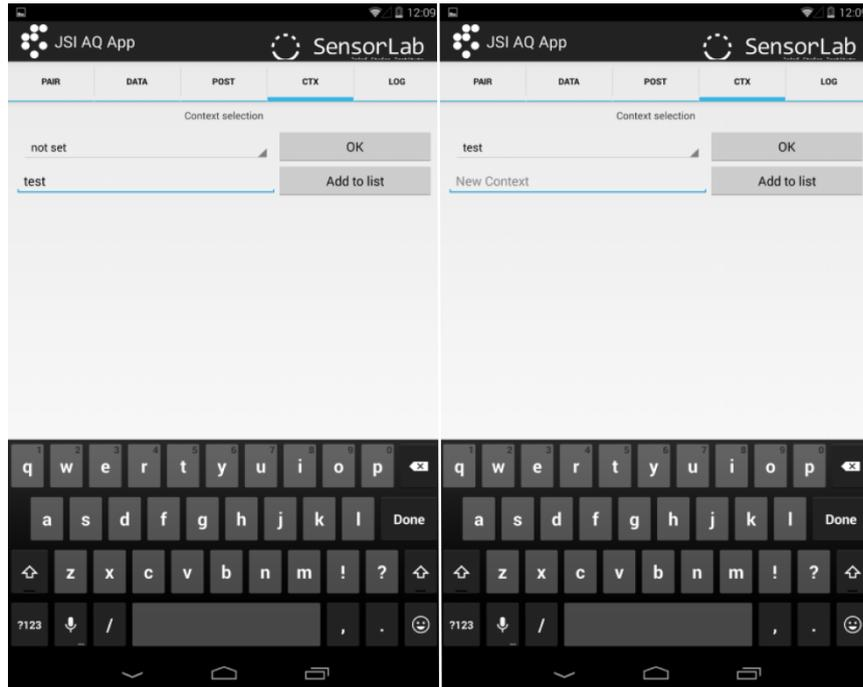

Figure 7: Entering the context.
2. Before starting with the measurements collection you need to set the context of the measurements. Once the context is set, it is attached to all the collected measurements until it is modified again. To set/change the context, go to the tab CTX and enter new context, click Add to list, select this context from the list and click OK (see Figure 7).